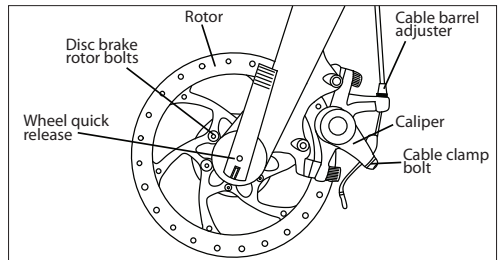

Fig. 32: Disc Brake.
- Disc brake (Fig. 32)
Disc Brakes (Fig. 32):